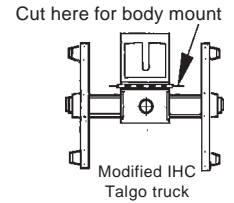

Fig.2
2. For body mounted coupler installation cut off coupler bracket at bolster. See Fig. 2. Use a No.5® Coupler.